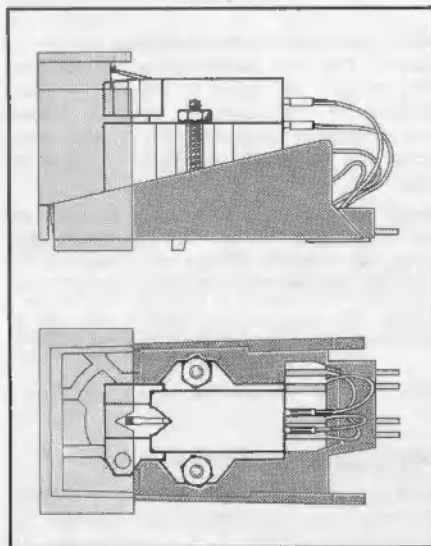

Fig. 12
2. Fasten the cartridge with the help of the fitting accessory supplied with the cartridge. Be sure it is located correctly (Fig. 12).